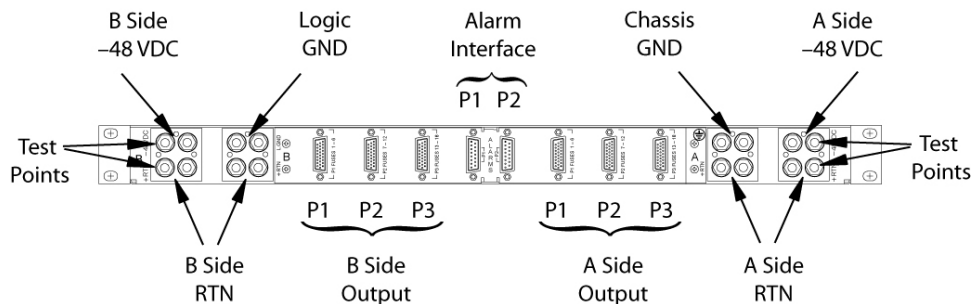
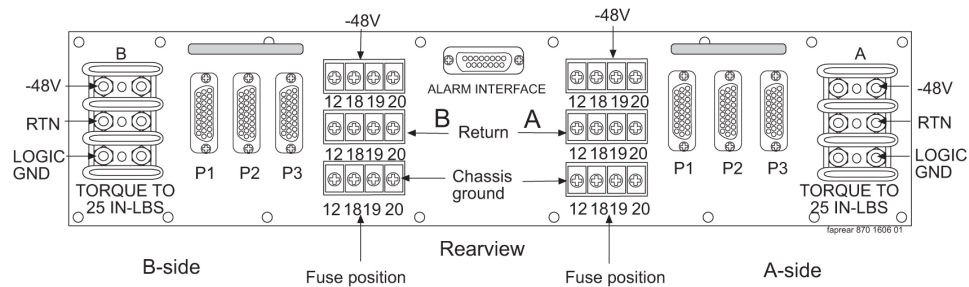

Figure 49: 1U Fuse and Alarm Panel Rear (P/N 870-2804-01)
Figure 50: 3U Fuse and Alarm Panel Rear (P/N 870-2320-03)
9. Fasten the lugs of the cables to the respective A-side and B-side -48VDC and RTN points on the FAP. Refer to Figure 49: 1U Fuse and Alarm Panel Rear \(P/N 870-2804-01\) and Figure 50: 3U Fuse and Alarm Panel Rear \(P/N 870-2320-03\).